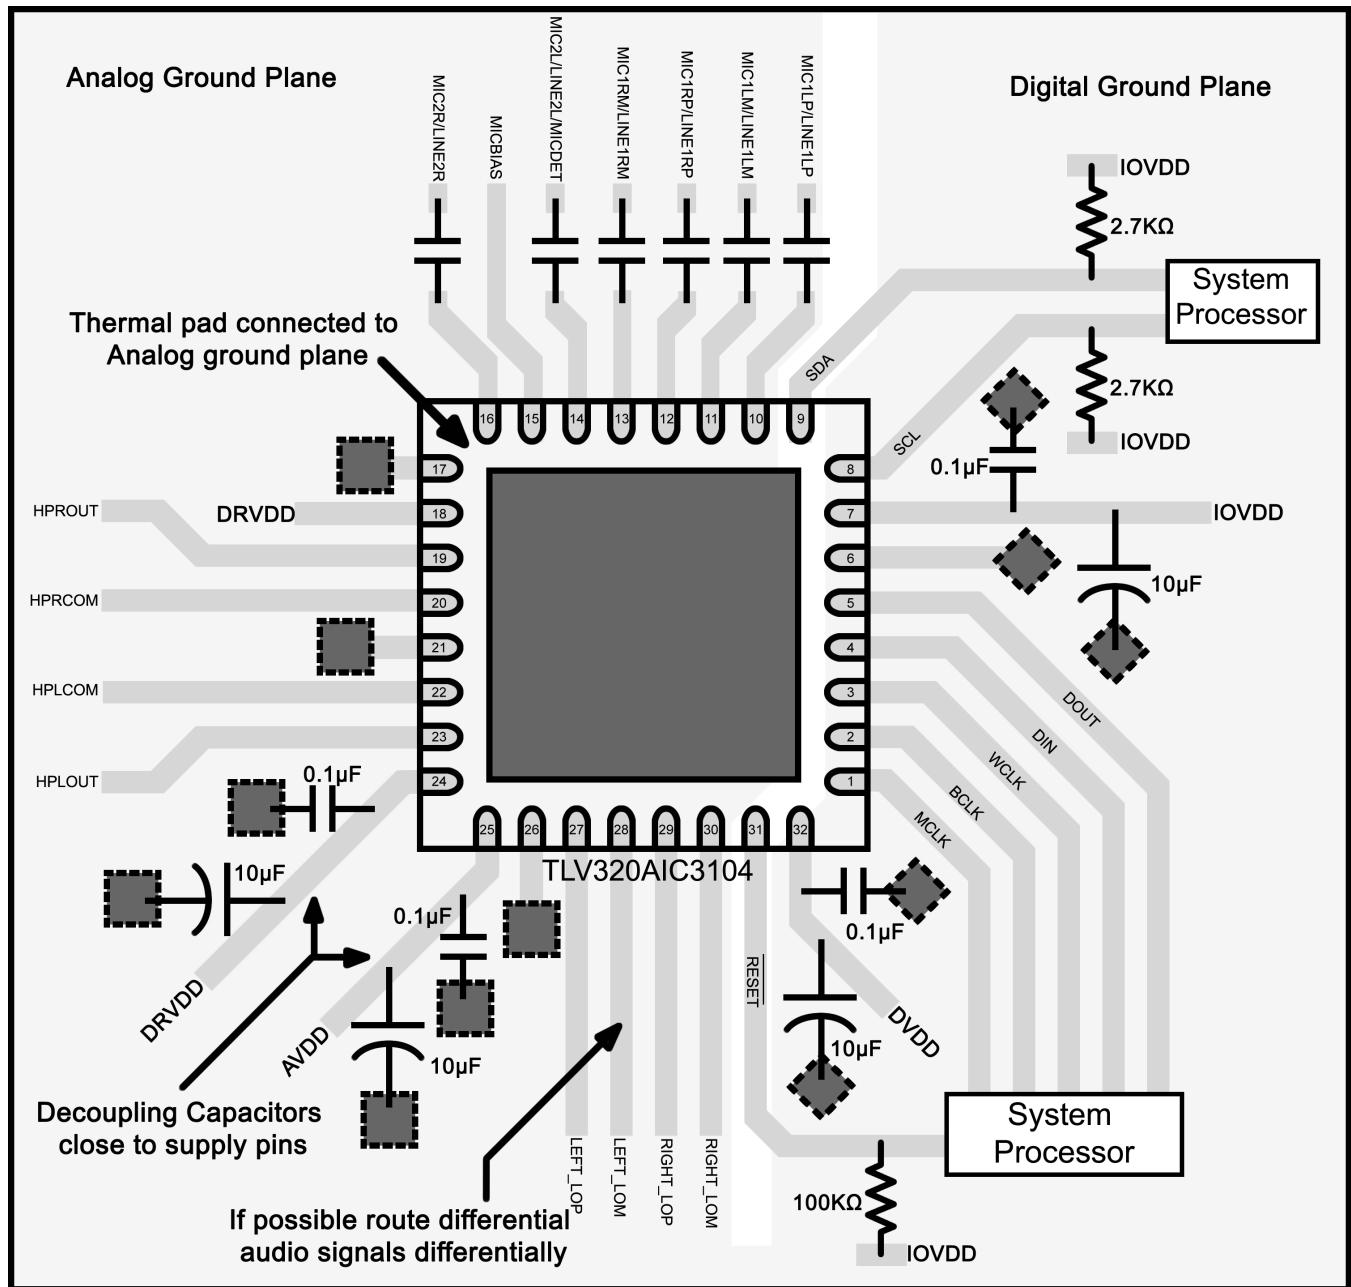

Figure 38. Layout Example
- Following the recommended component placement, schematic layout and routing given in Figure 38, integrate the device and its supporting components into the system PCB file.